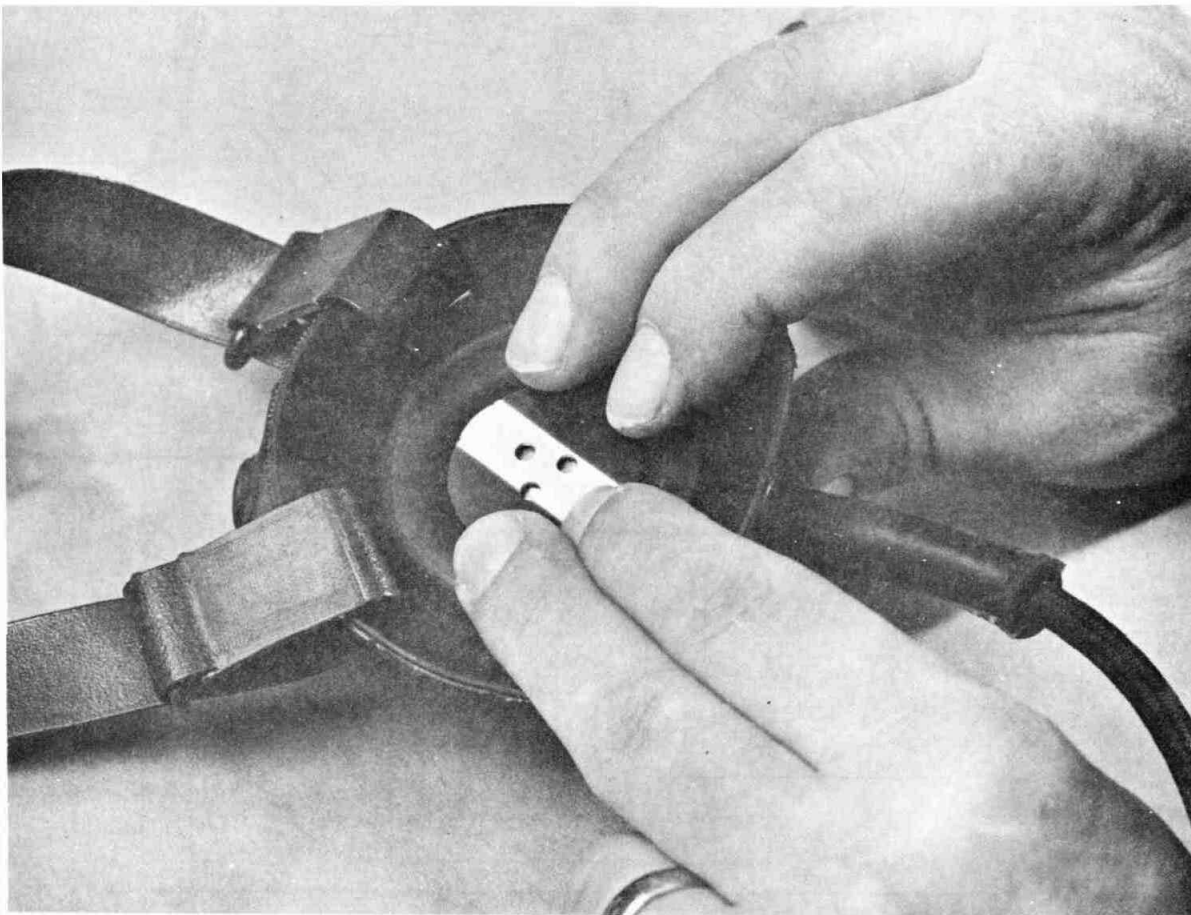

Fig 3 - Removing the moulding (1)
- a. The headset should be held as indicated in Fig 3.